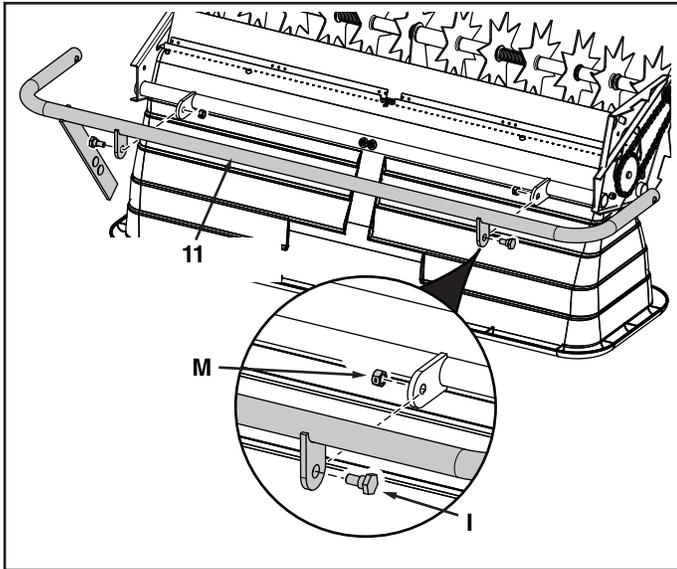

FIGURE 18
25. Attach the lift tube assembly (11) to the spreader using the two shoulder bolts (I) and two 3/8" hex lock nuts (M). See figure 18.